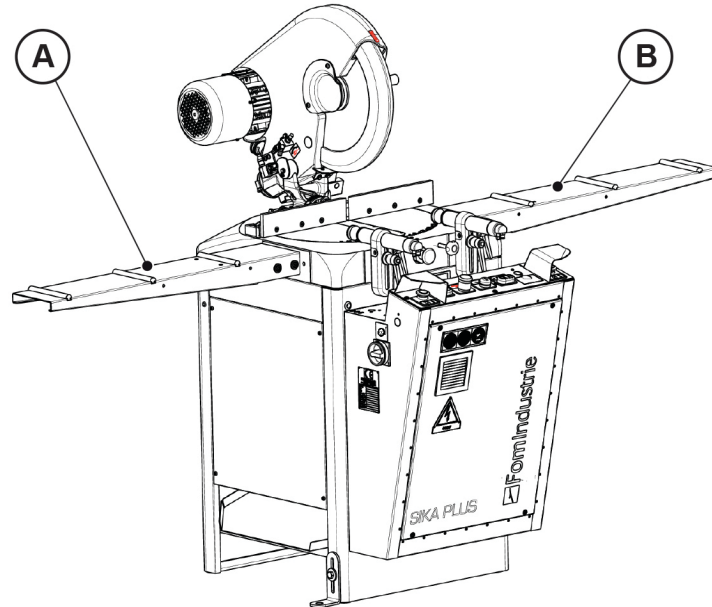
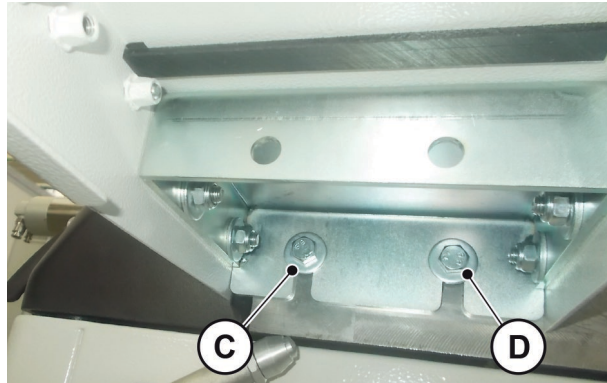

Fig. 05-02
Fig. 05-03
Fit the right and left profile supports "A / B" (Fig. 05-02) by adjusting, for each support, the relevant fixing screws "C / D" (Fig. 05-03).
- Carry out vertical alignment by adjusting the 2 screws "C" and "D" (**Fig. 05-03**).